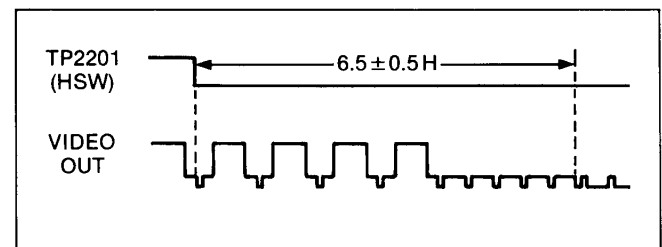

Figure E3.
4. Adjust VR2203 for 6.5H +/-0.5H as shown in Figure E3.